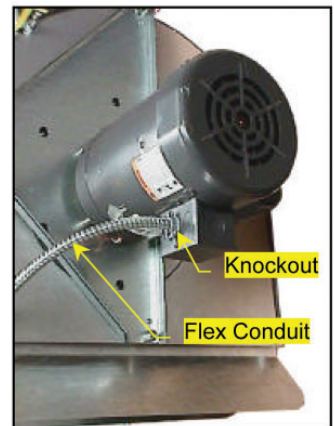

Figure 10
All pre-assembled units are factory pre-wired for 230 VAC single phase operation. For motor wiring conversion to 115 VAC operation, refer to the motor manufacturer's wiring connection diagram as found on the motor nameplate, and see instructions below for heater element conversion instructions. THE MOTOR MUST BE WIRED FOR CLOCKWISE ROTATION WHEN VIEWING THE MOTOR FROM ITS COOLING FAN END as in figures 10 & 11. (CCW when viewing shaft end.)
3. Disconnect the motor wiring and flex conduit from the motor. (See Figure 10)
3. Remove the motor conduit box cover. Remove the motor conduit box knockout as shown in Figure 10, insert the conduit connector and wires through the knockout, and tighten the connector nut onto the connector.